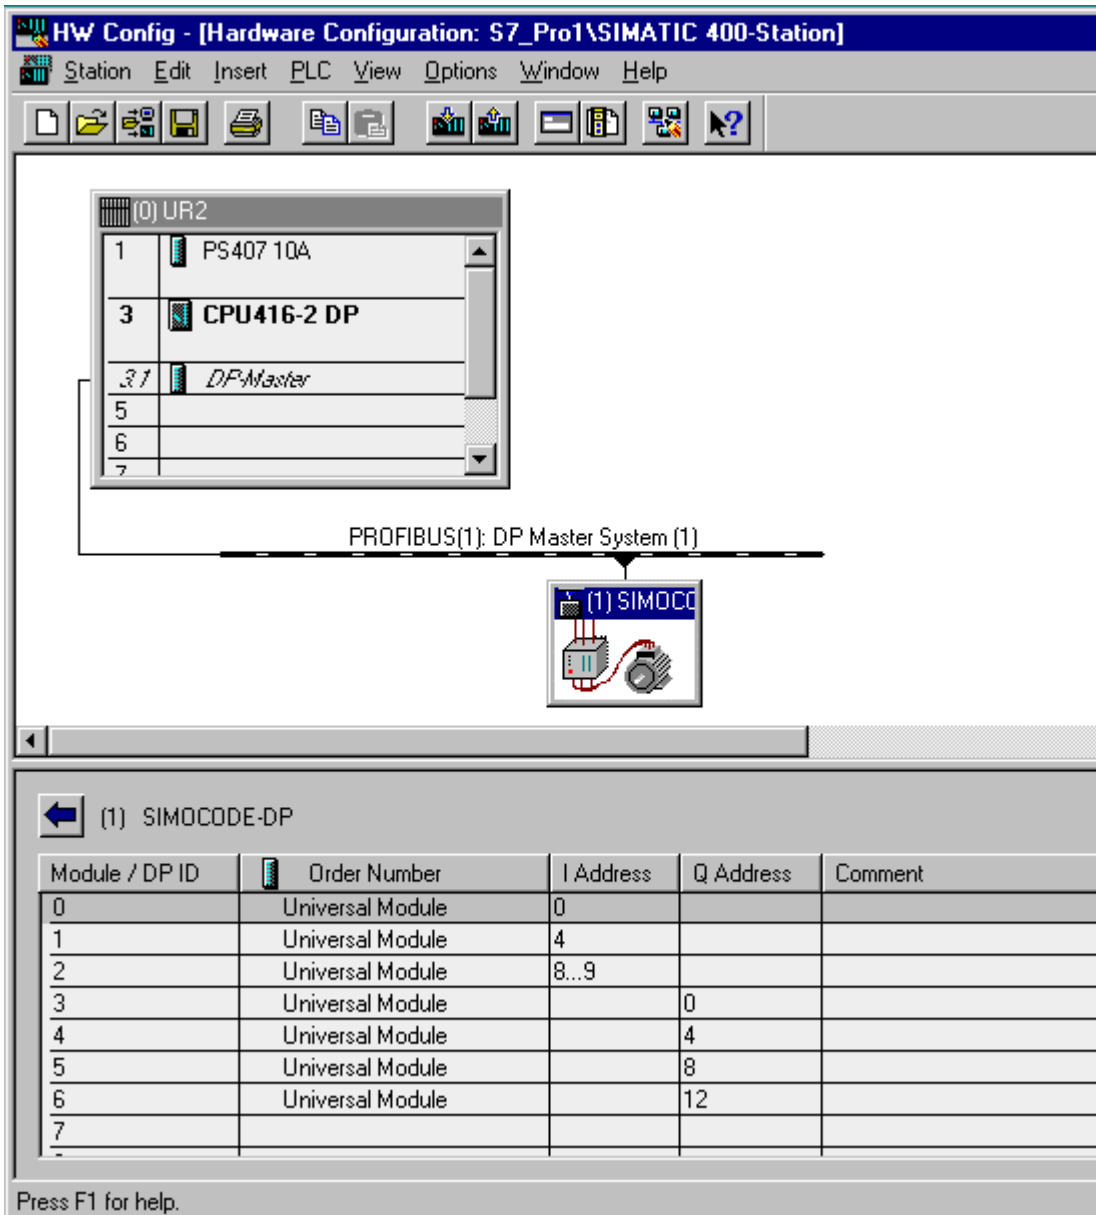

Figure 4
- Make sure that the I/O addresses on the module have the same values as in Figure 4.